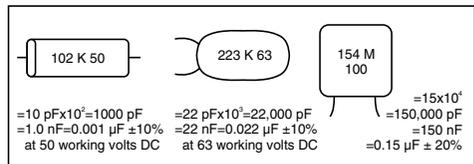

Fig. 41: Plastic film capacitors showing capacitance value, tolerance and working voltage
Some examples of decoding the values of plastic and ceramic disk capacitors are shown in Figs. 41 and 42. A capacitor coded 474K63 means that its value is 47×10^4 pF or 470000 pF or 0.47 microfarads. K indicates 10% tolerance. The next digits—(63) signifies its working voltage.